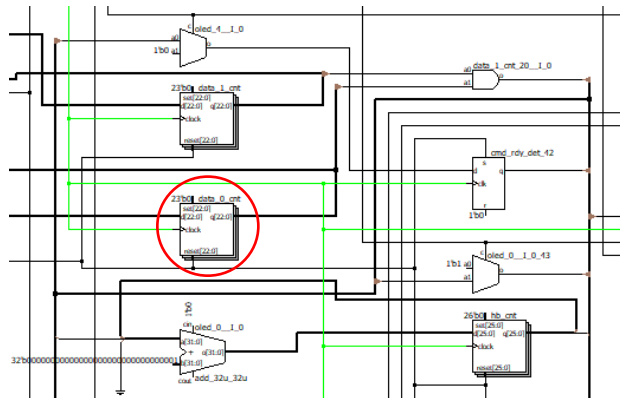

Figure 3.8. Selected Module to be Trimmed
- Select the object(s) that you do not want to focus on as shown in Figure 3.8.